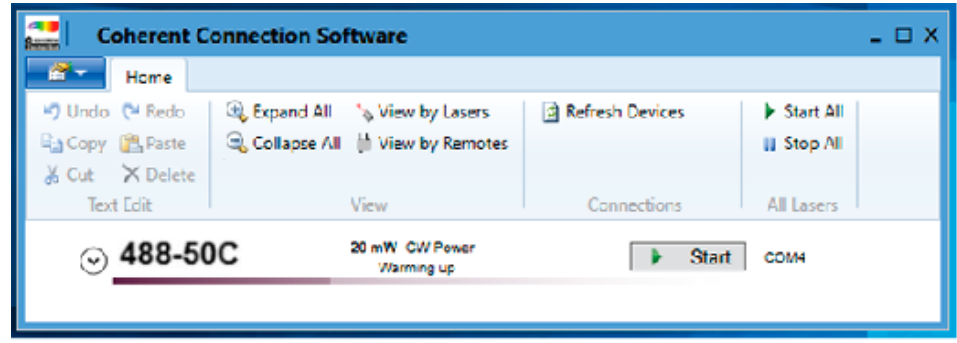

Figure 3-10. Primary Home Window - Connected Laser Shown
3. Make sure that the laser is shown on the Home screen in the software. Refer to Figure 3-10.